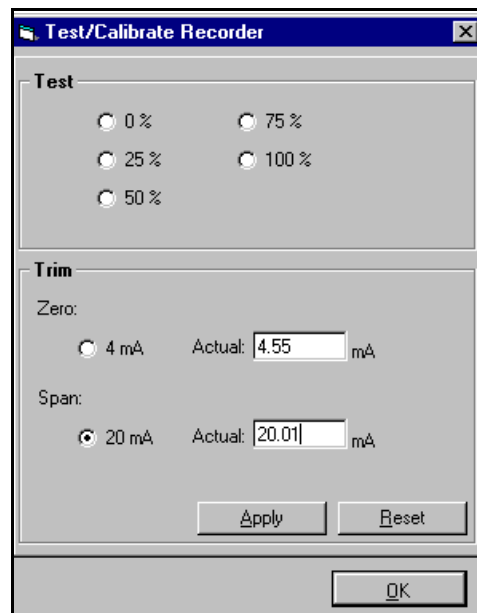

Figure 52: Test/Calibrate Recorder
3. The screen should now look similar to *Figure 52* below. Click on the 4 mA option in the Trim section.